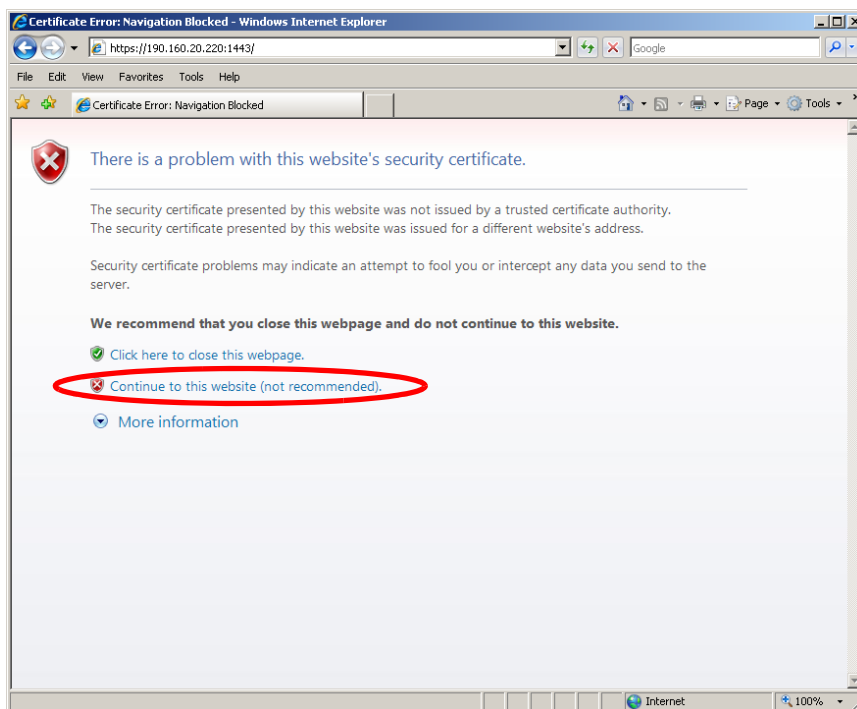
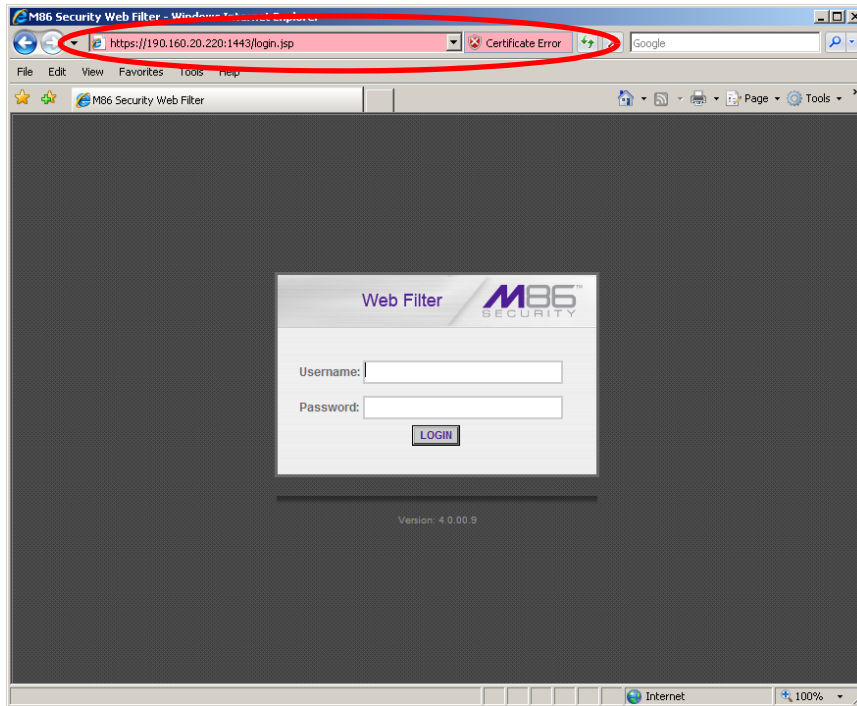

Figure A1: Windows XP, IE 8
Figure A2: Windows XP, IE 8
- When the security issue page re-displays with the message: "There is a problem with this website's security certificate.", click **Continue to this website (not recommended)** (see Figure A1). Choosing this option displays the Web Filter login window with the address field and the Certificate Error button to the right of the field shaded a reddish color (see Figure A2).